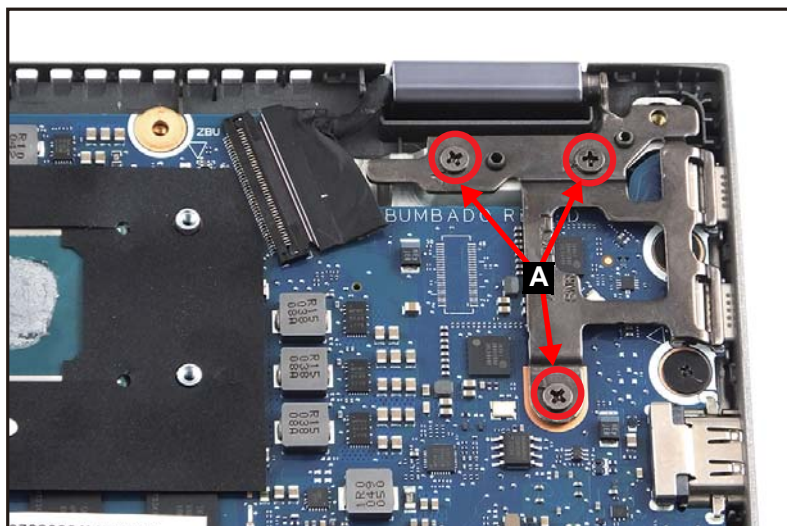

Figure 1-28. Mainboard Removal
1. Remove three (3) screws (A) securing the right side of LCD hinge in place (Figure 1-28).